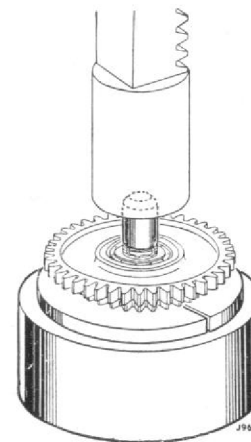

Fig. 6.
3. Position split bush T.74774 between the double idler gear and the flange of the gear spindle. Place the assembly with the split bush in position, on pot fixture T.74775. Use adapter T.74777 to press out the spindle, Fig. 6.